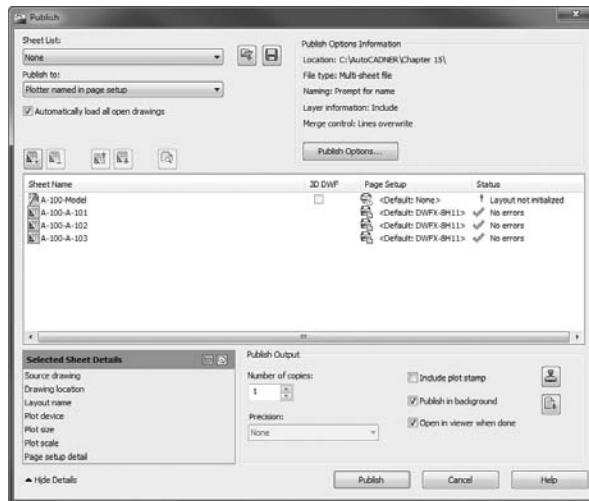

FIGURE 15.34 The Publish dialog box
1. Open the A-100.dwg sheet file, select the Output tab, and then click the Batch Plot button in the Plot panel. You may also choose the Publish option from the Application menu, or enter **PUBLISH**, to open the Publish dialog box (see Figure 15.34). This shows all the layouts, including model space for all open drawings.